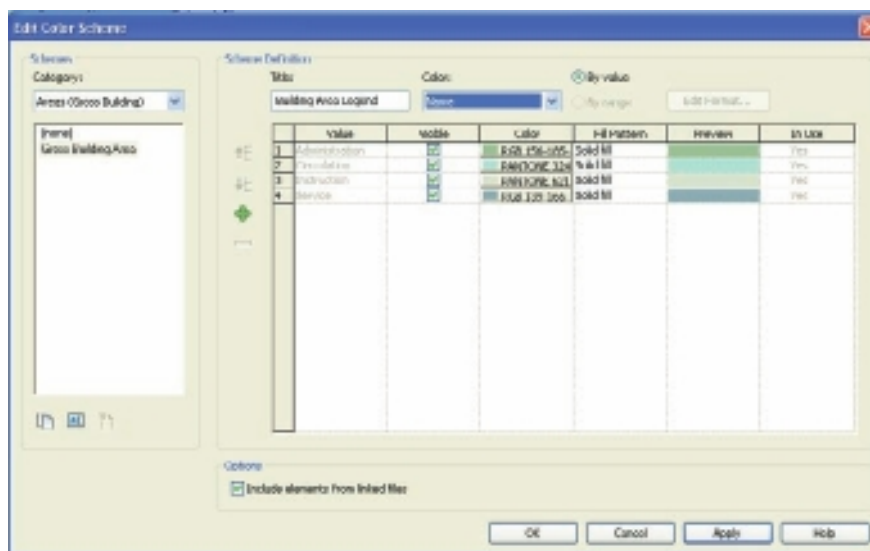

Figure 11.15
- Select the legend. On the Modify | Color Fill Legends tab's Scheme panel, click the Edit Scheme button. This will open the Edit Color Scheme dialog box (Figure 11.15).